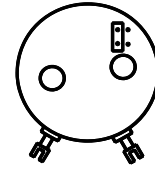

Fig.9: "220°-290° "
- Jumper left for measuring range between 220° and 290° (fig. 9)